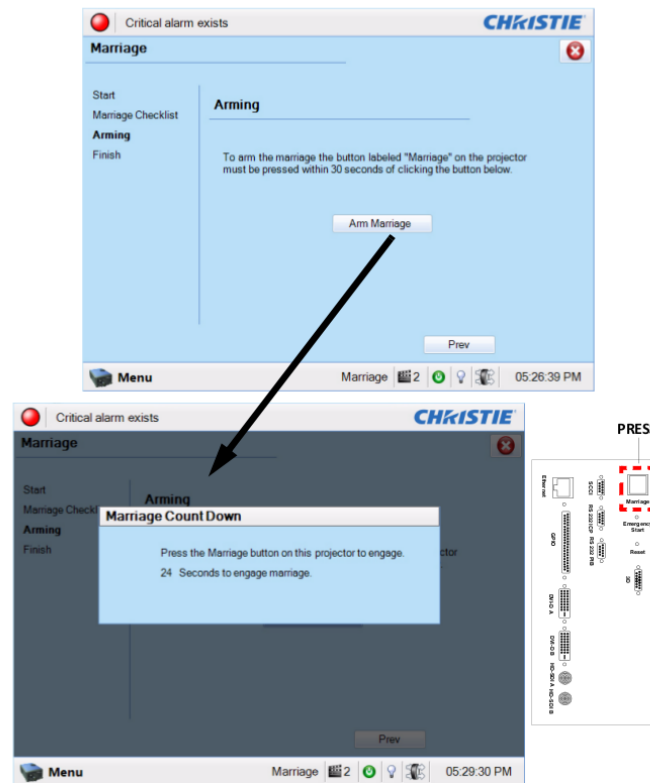

Figure 34 Arm Marriage and Marriage countdown
- c. Arm the marriage. In the Arming window, click the Arm Marriage button (refer to Figure 34). A 30 second count-down timer begins. The LED in the Marriage button on the PI Board will flash green during this count-down. You **MUST** press the Marriage button on the PI Board within this 30 second window in order for the marriage to take effect. When the Marriage button is pressed, the LED button will change to a solid green to indicate a successful marriage.